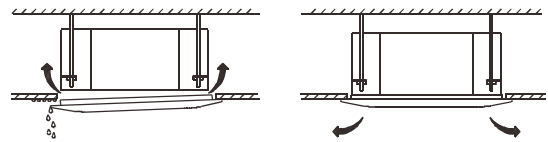

Fig. 44 – Eliminate space
3. After installing the decoration panel, ensure that there is no space between the unit body and decoration panel. Otherwise air may leak through the gap and cause dewdrop (see Fig. 44).